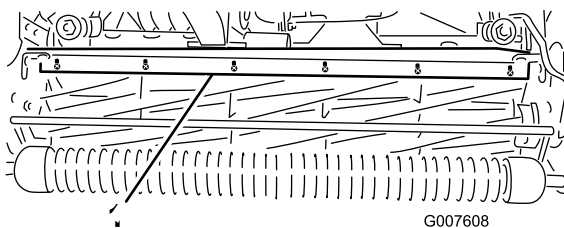

Figure 46
1. Loosen the screws securing the top bar (Figure 46) to cutting unit.